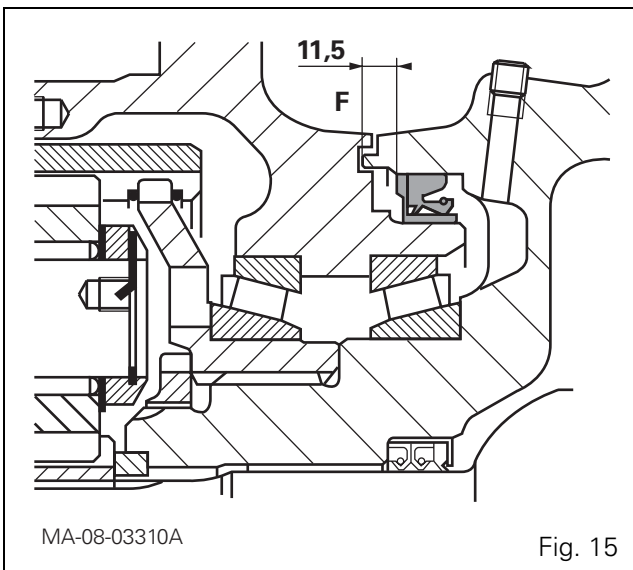

Fig. 15
- The seal (45) does not fit up against the shoulder of the housing; the ring determines its position.
NOTE: The repositioning dimension of the seal (45) in relation to face F (Fig. 15) is 11.5 mm.